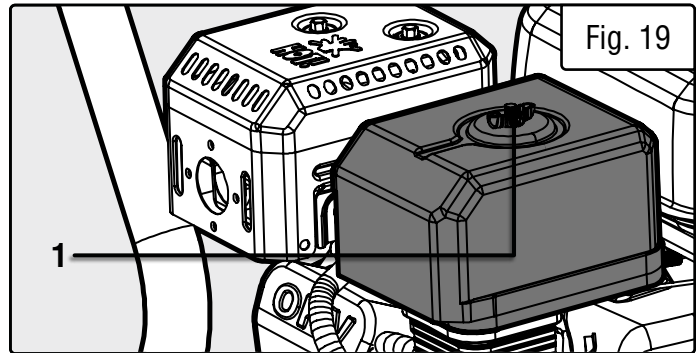

Fig. 19
1. Loosen and remove the wing nut (Fig. 19 - 1) on top of the air filter cover, then remove the cover.